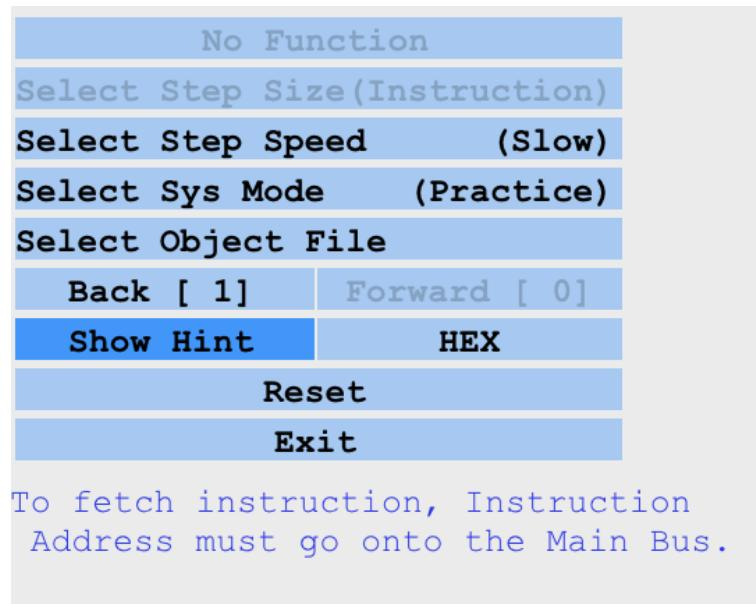
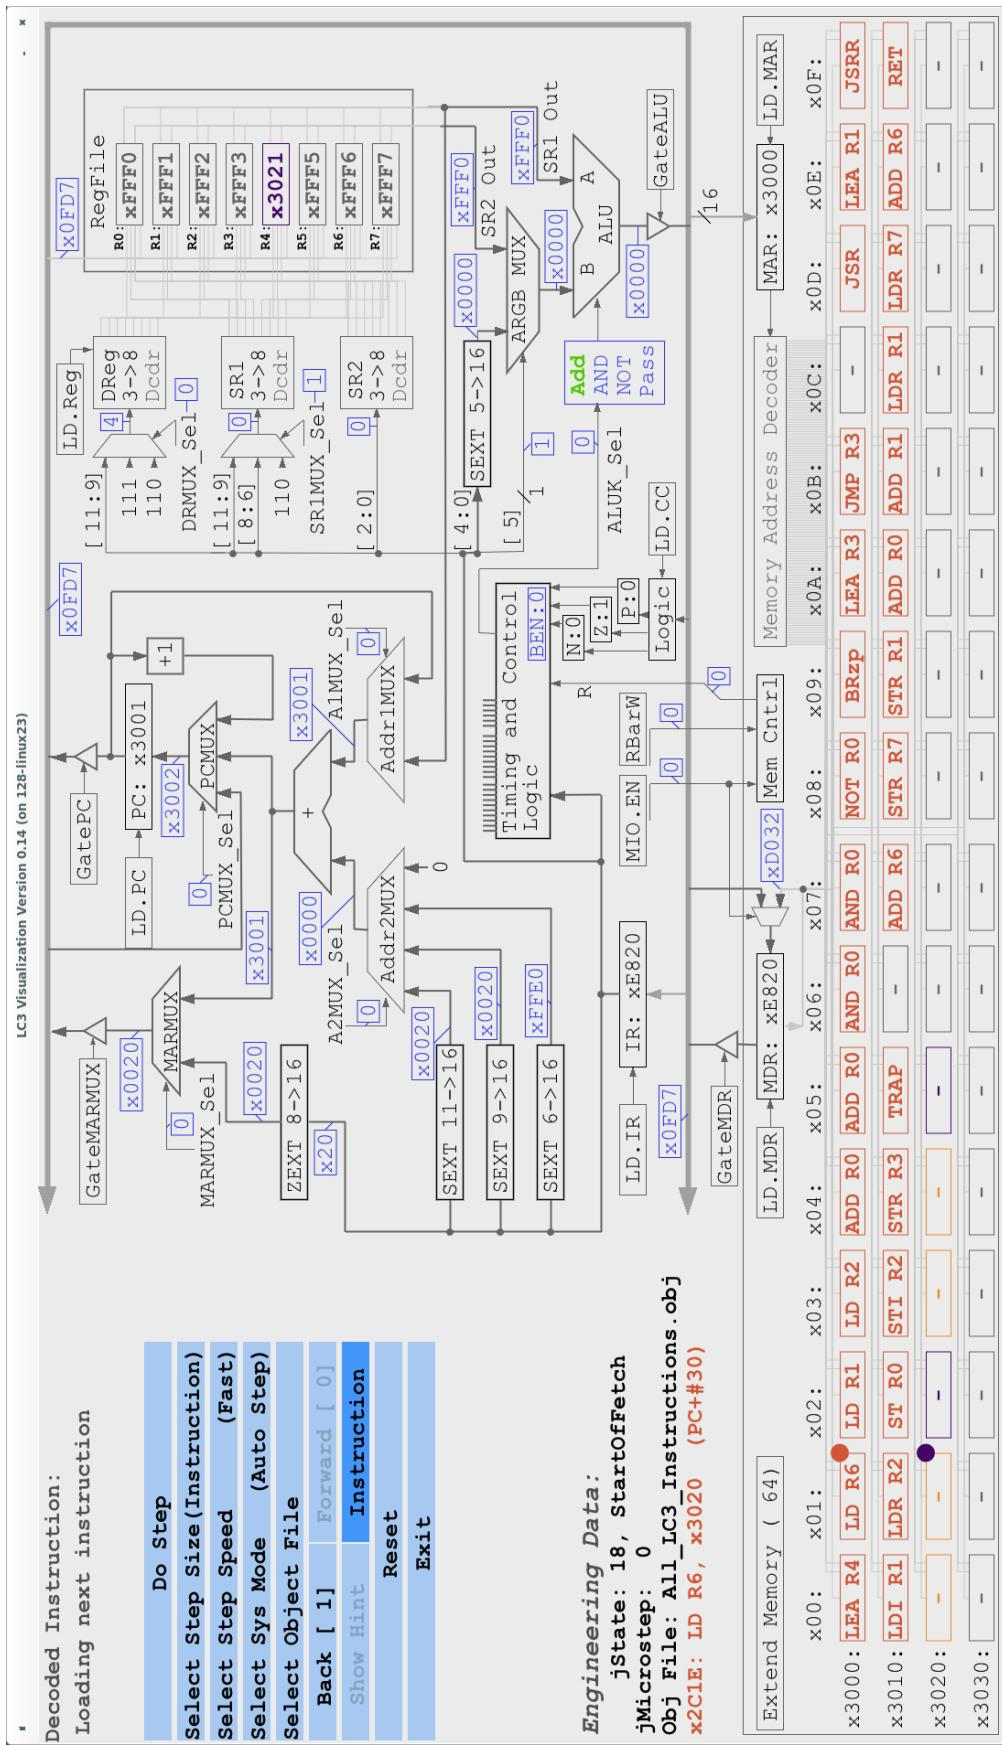

Figure 10: A hint as to the next control signal needed, provided in Practice Mode.
Figure 11: LC3\_Visualization in a state comparable to figure 6, with the “Instruction” display mode selected.
- Hints are available at each microstep. A sample hint is seen in figure 10.
The button indicating HEX in figure 10(a) controls the selection. Clicking will cycle the display mode through the first five options. Clicking five times will bring the display mode back to HEX. Figure 11 illustrates the display mode set to “Instruction”. Only words identified as instructions are disassembled (XXX section 5.1 describes the automatic program analysis).